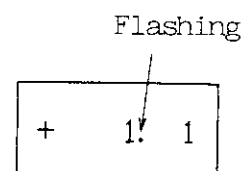

Fig. 29
2. Press SCAN. The display will appear as shown in Fig. 29.
6. Press REPEAT. Scan will start and settings will be made automatically. As address 11 is complete, scan operations will return to address 1 and continue. (Fig. 29)